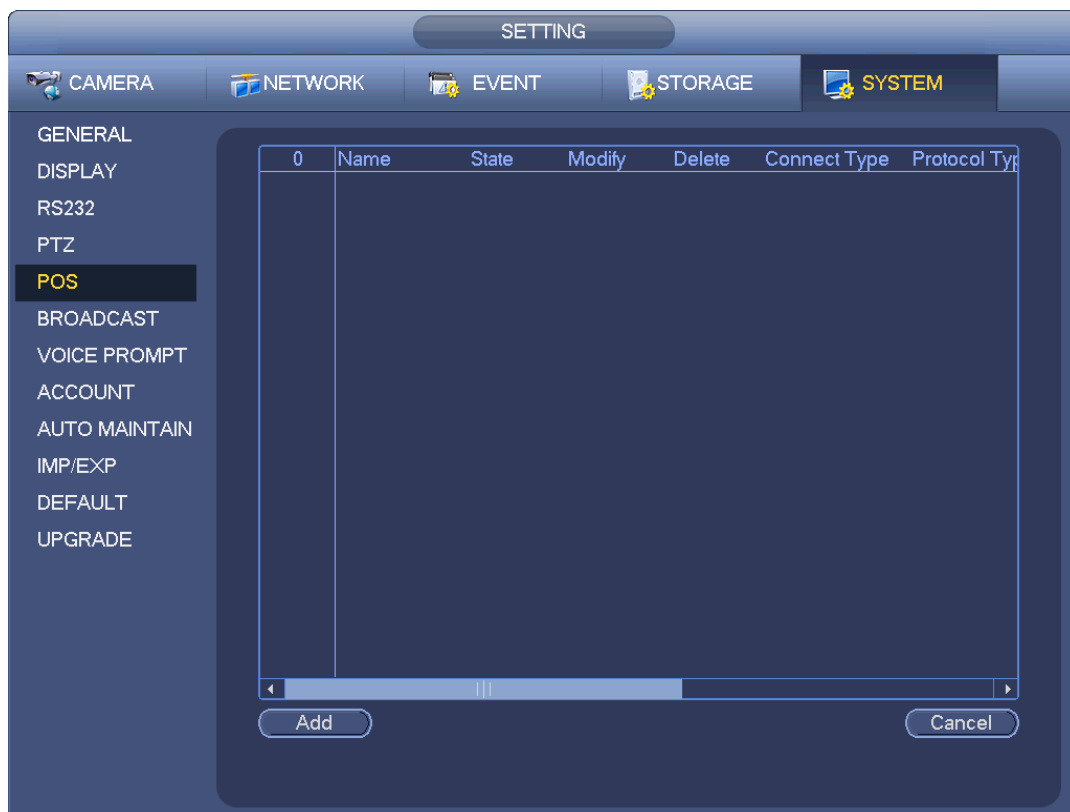

Figure 4-159
Step 1 From main menu->Setting->System->POS, the interface is shown as below. See Figure 4-159.